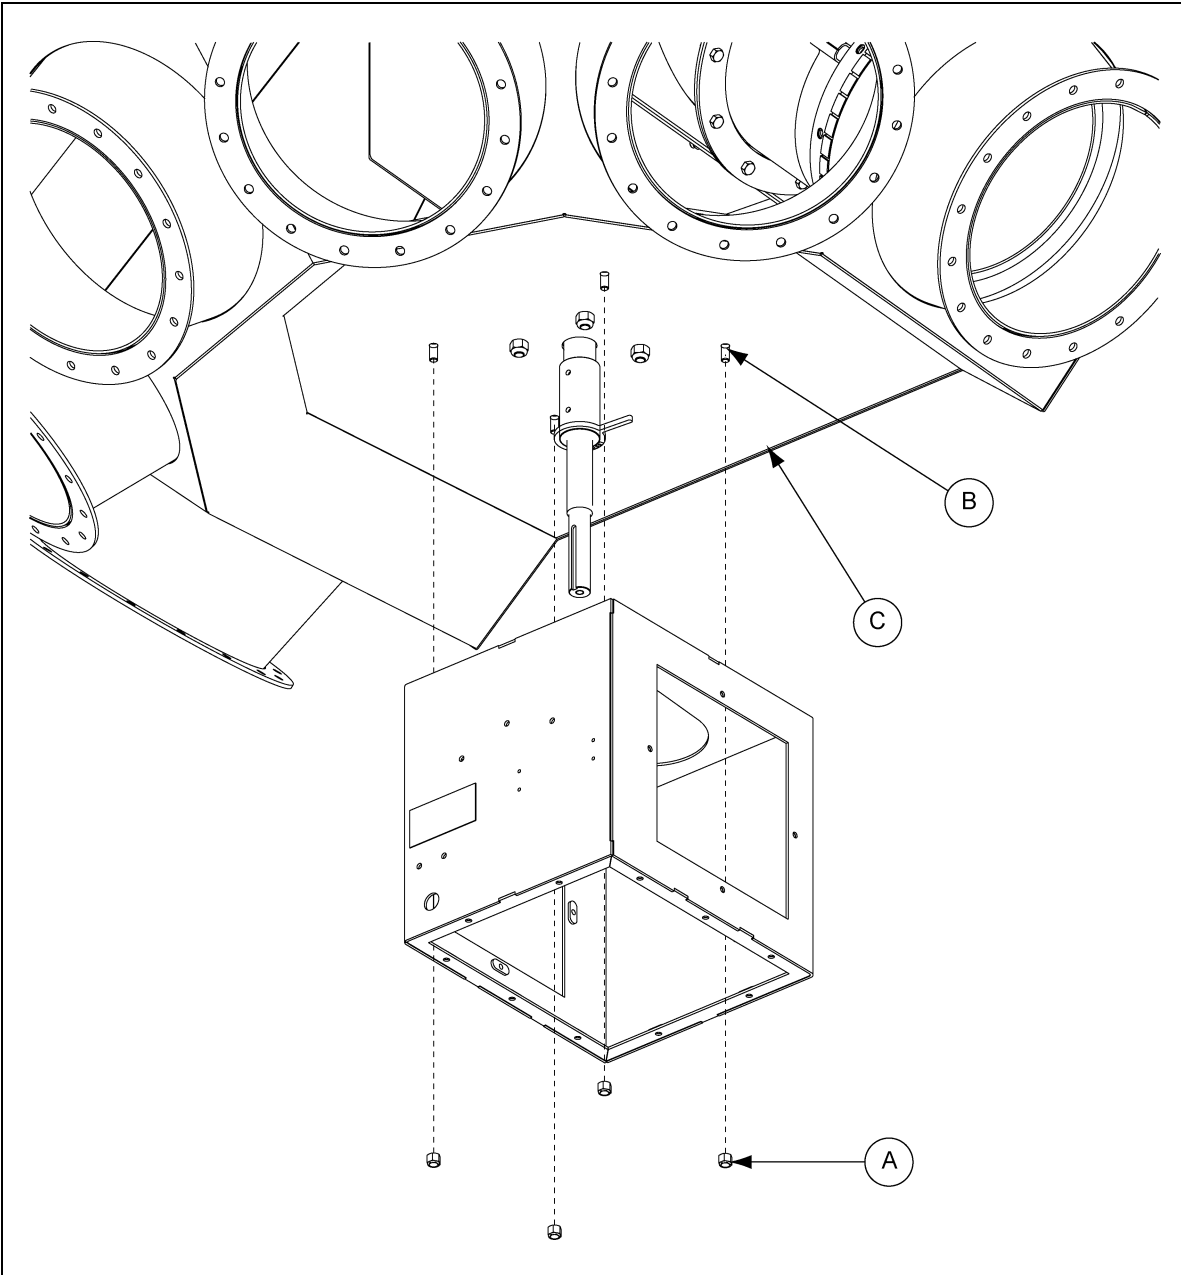

Figure 6B *Electronic Distributor Enclosure*
Install the enclosure (DEC0005) to the distributor (C) using four (4) 3/8 bolts (B) and nylock nuts (A). (See Figure 6B.) Note the orientation of the enclosure; the side with the two (2) large holes must face away from back wall of distributor (C). Controller will not work if installed backwards.